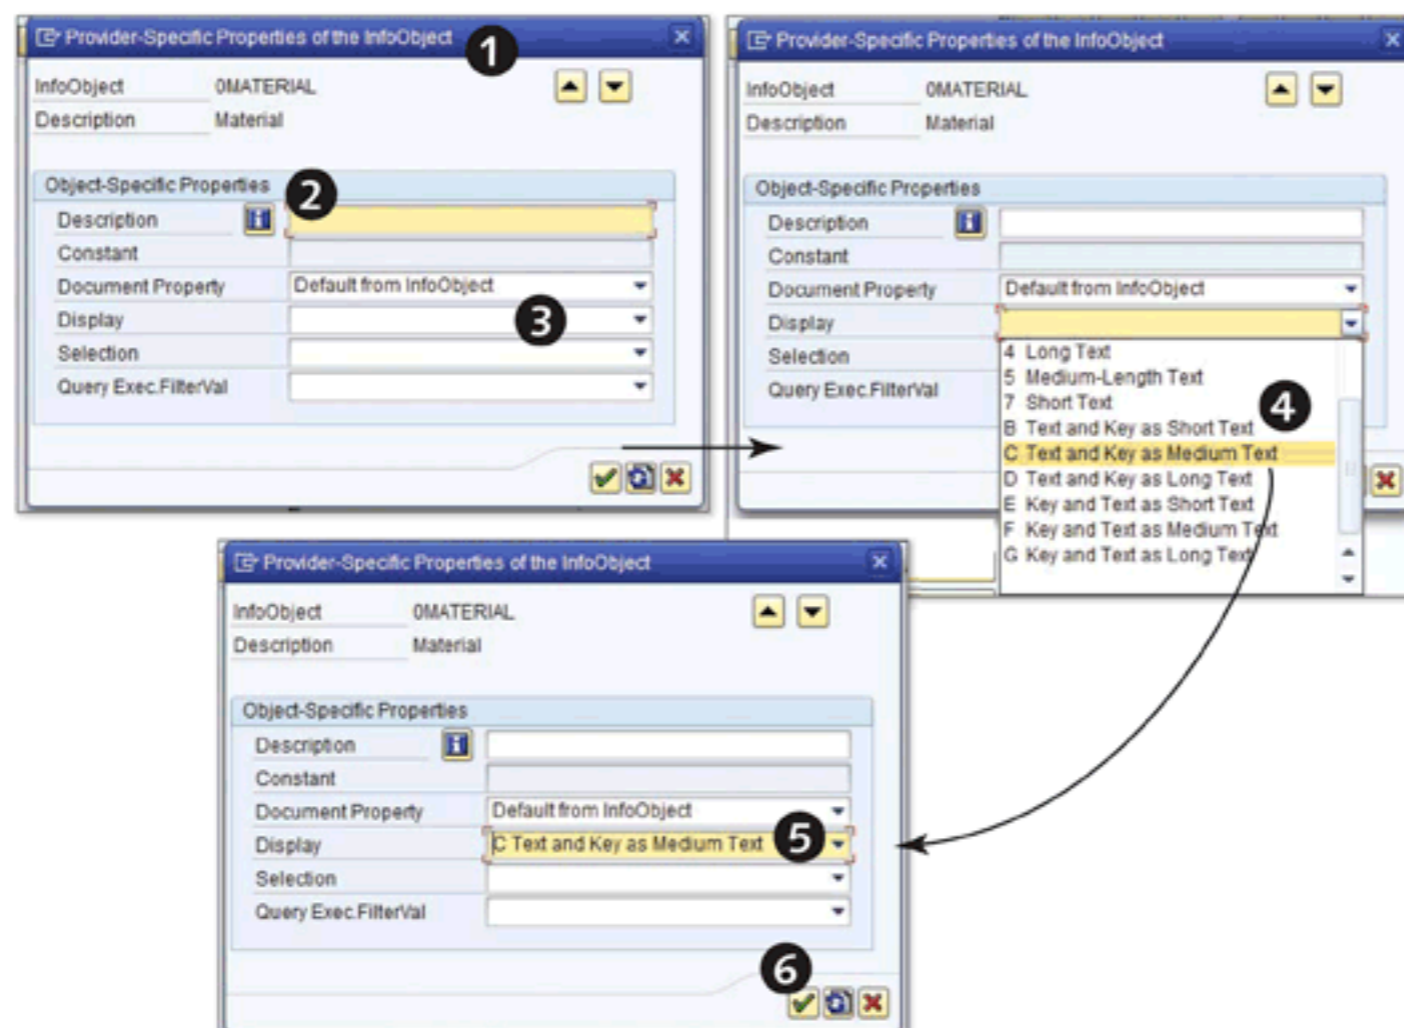

Figure 5.25 Setting Provider-Specific Properties of the InfoObject
This action displays the PROVIDER-SPECIFIC PROPERTIES OF THE INFOOBJECT screen shown in ❶ of Figure 5.25. Different object-specific properties are visible (❷). To set the required properties of the 0MATERIAL InfoObject, select the dropdown menu next to DISPLAY (❸), and select TEXT and KEY AS MEDIUM TEXT (❹). This setting influences the display for 0MATERIAL only in this specific InfoCube (❺). Click on the CONTINUE icon (❻) to return to the definition screen.